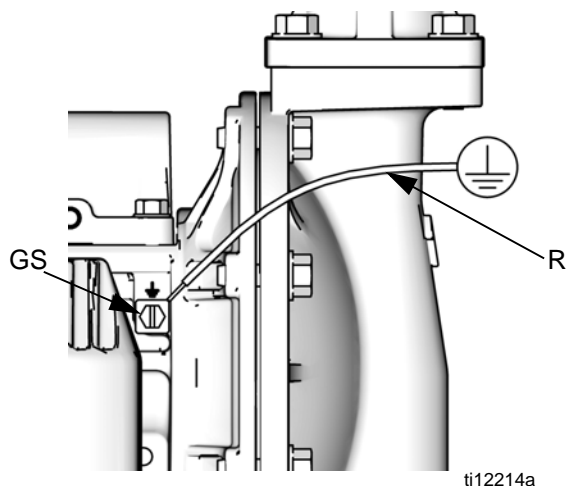

FIG. 1. Ground screw and wire
Pump: See FIG. 1. Loosen the grounding screw (GS). Insert one end of a 12 ga. minimum ground wire (R) behind the grounding screw and tighten the screw securely. Connect the clamp end of the ground wire to a true earth ground. A ground wire and clamp, Part 238909, is available from Graco.